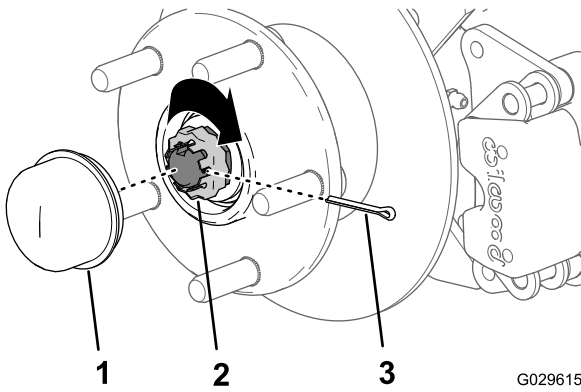

Figure 34
8. Install the retainer over the nut and check the alignment of the slot in the retainer and the hole in the spindle for the cotter pin (Figure 34).
9. Install the cotter pin and bend each leg around the retainer (Figure 34).
10. Install the dust cap onto the hub (Figure 34).